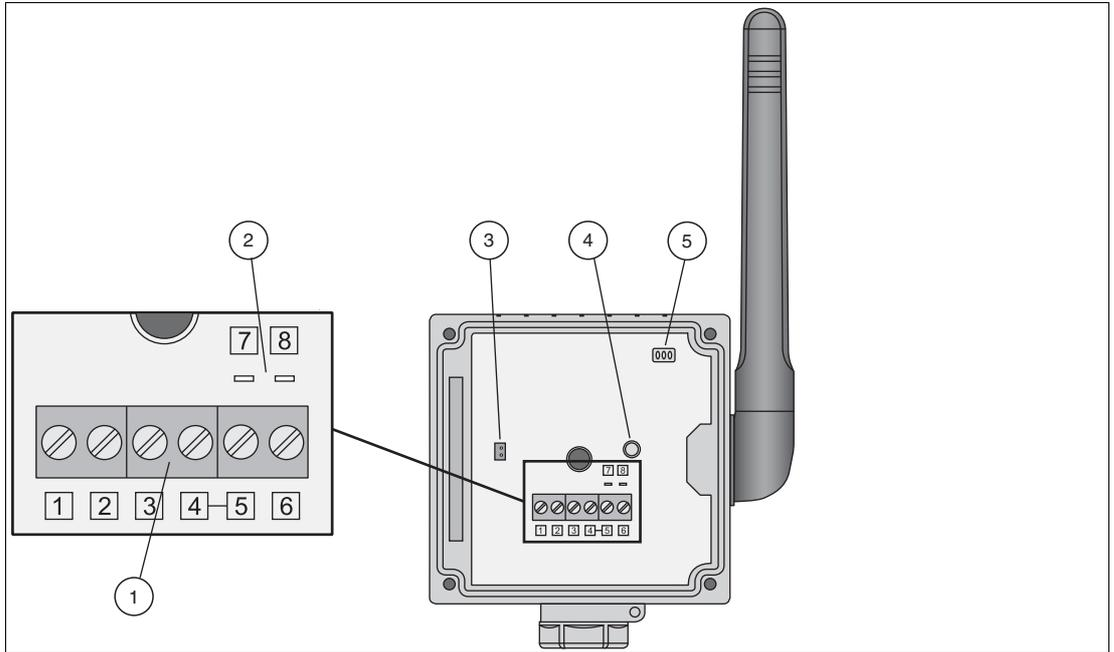

Figure 2.1 Connections and interfaces of the WirelessHART Adapter
1. Connect a configuration tool (e.g. PACTware) to the adapter using a HART modem and pins 7 and 8 (see figure 2.1).